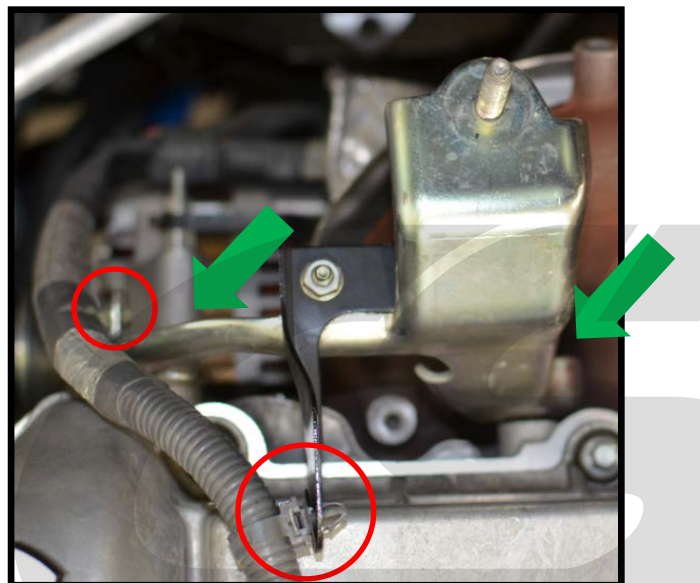

Figure 2c
- d) (For FMIC Setups Only) Remove the TMIC bracket. Disconnect the snap clips from the bracket, red circles in Figure 2c. Then remove the 13mm bolts holding the bracket. Green arrows in Figure 2c.